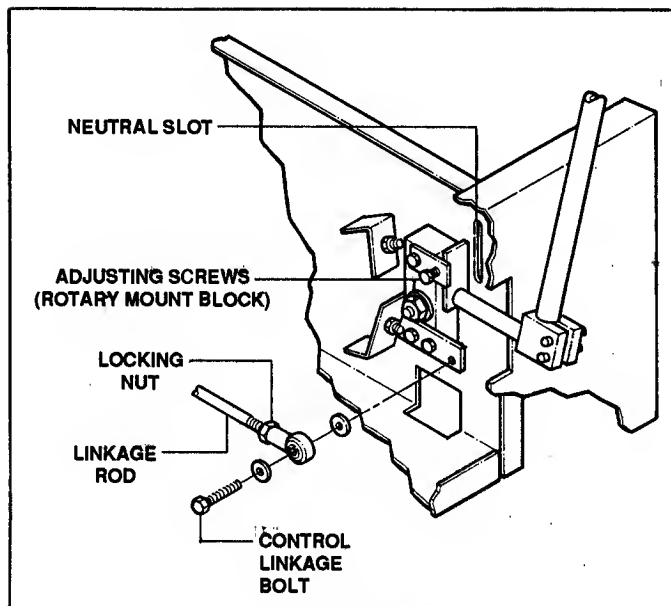

FIGURE 4.9
- Remove the control linkage bolt from the rotary mount. See Figure 4.9.